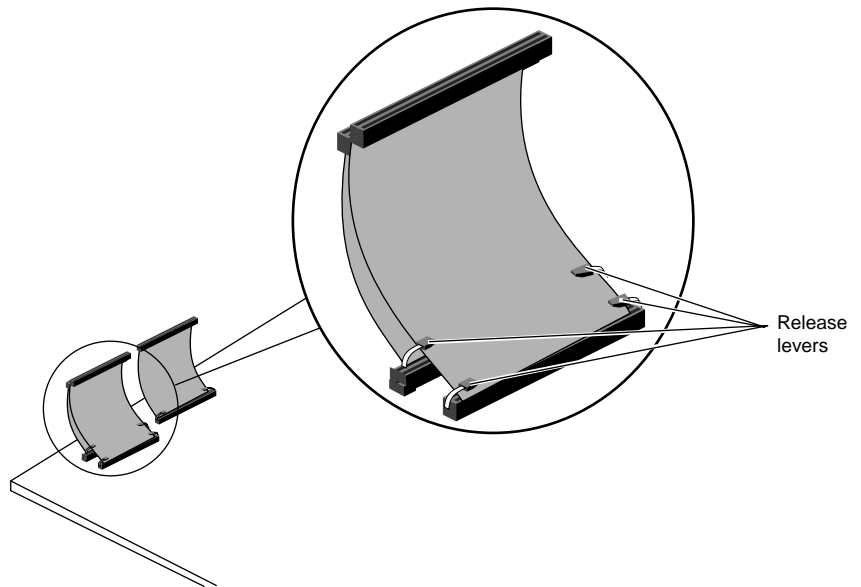

Figure 2-19 Attaching the Video-Graphics Cables to the Graphics Board Connectors
2. Slip the innermost cable through the levers of the outermost cable of the two-cable set. See Figure 2-19.